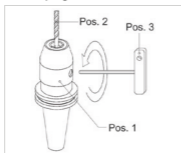

Figure 4: Loosing clamping jaws
- Loosen the clamping jaws by turning the pinion counterclockwise using the appropriate hex-wrench (see "Figure 4: Loosing clamping jaws").